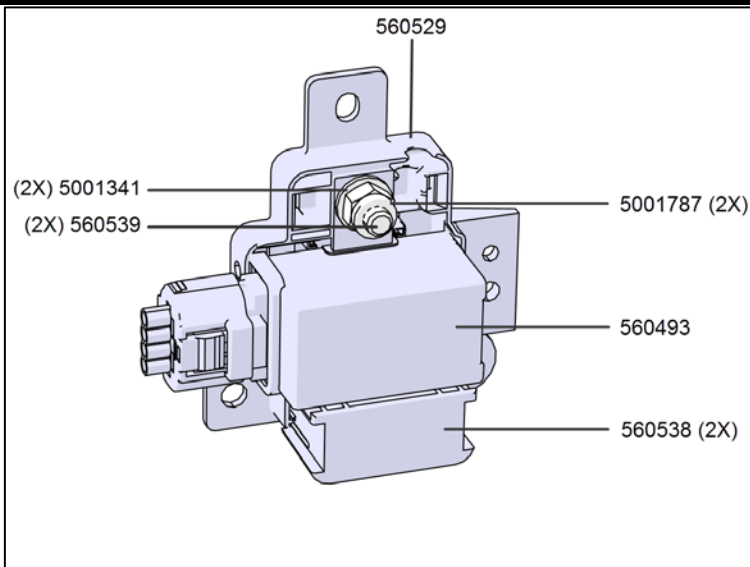

FIGURE 10:RELAY ASSEMBLY
9. Install hinge **382169** on the next available set of holes with rivets **504340** (4)
11. Assemble rod on hinge. (Figure 10)
12. Place bracket in slots, lower the rod on top of bracket **062382** and test for proper fit.(Figure 10)
14. Secure with screw **509827** (Figure 10).